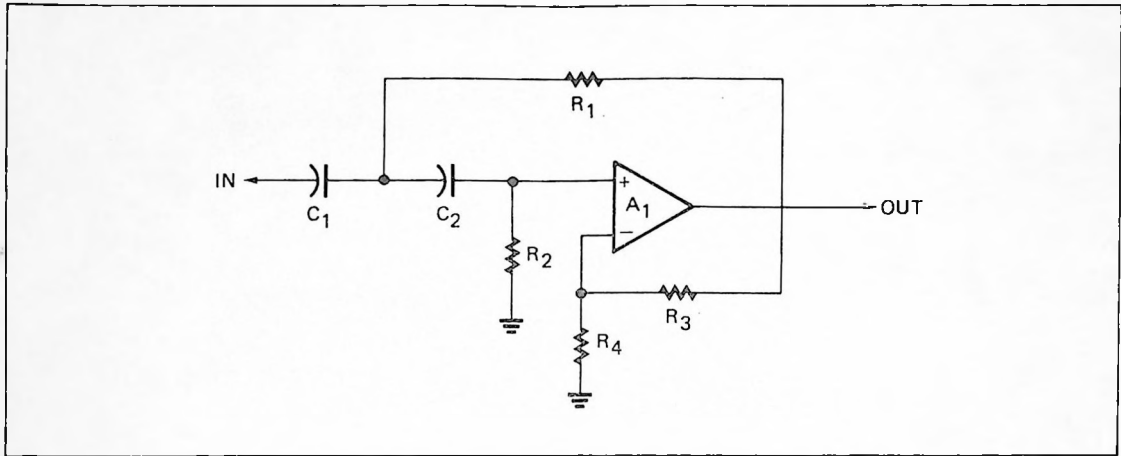

Figure A-3. Filter Section "C," Second-Order Highpass.
- c. Second-order highpass section "C" (Figure A-3).